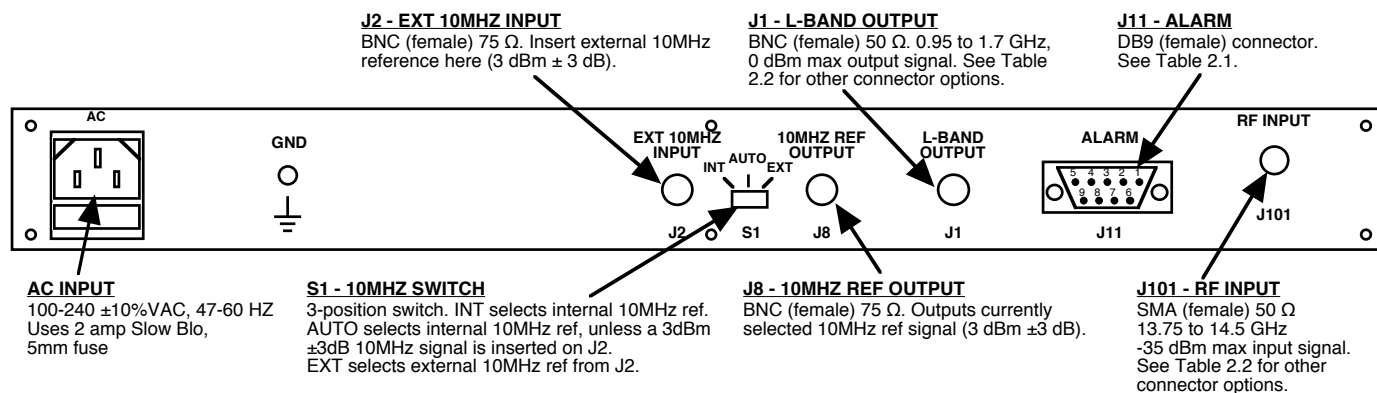

FIGURE 2.1 2116-137 Rear Panel I/O's
Figure 2.1 shows the input and output connectors on the rear panel.
1. Connect a -55 dBm to -35 dBm signal to RF INPUT, J101 (Figure 2.1).
5. Select either INT (for internal 10MHz ref), AUTO (for internal 10MHz ref UNLESS an external 10MHz, 3 dBm signal is connected to J2), or EXT (for external 10MHz, 3 dBm ref that is inserted at J2) on rear panel switch S1 (Figure 2.1).
7. Check that a 10MHz, 3 dBm ± 3 dB signal is present at the 10MHZ REF OUTPUT (J8) (Figure 2.1).